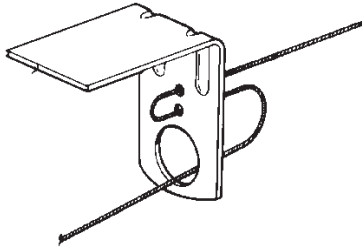
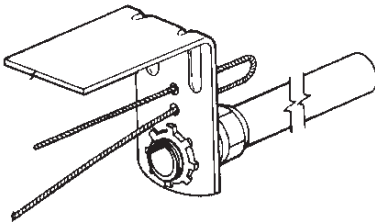
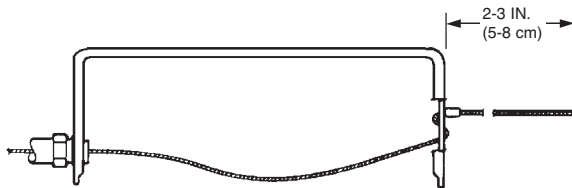

FIGURE 35
FIGURE 36
FIGURE 37
5. Feed the wire rope through the terminal detector bracket as shown in Figure 35 or as shown in Figure 36 if the terminal detector is mounted within a duct or header opening, and install the stop sleeve approximately 2 to 3 in. (5 to 8 cm) from the end of the wire rope. See Figure 37. Use the National Telephone Supply Company Nicopress Sleeve Tool (Stock No. 51-C-887) or equal to properly crimp the stop sleeve.